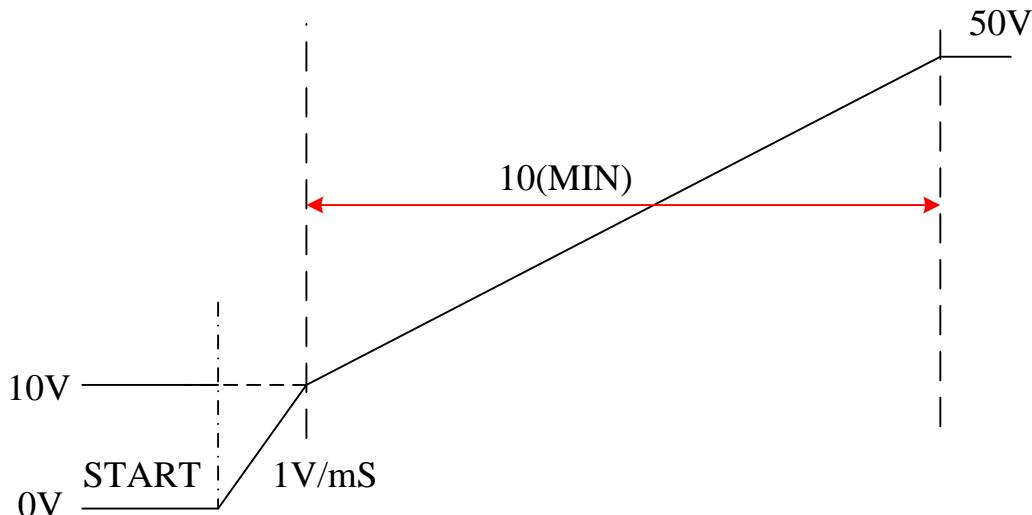

Figure 4-20
- CASE1: The hardware initial voltage is 0V and the output waveform is as Figure 4-20 shows.